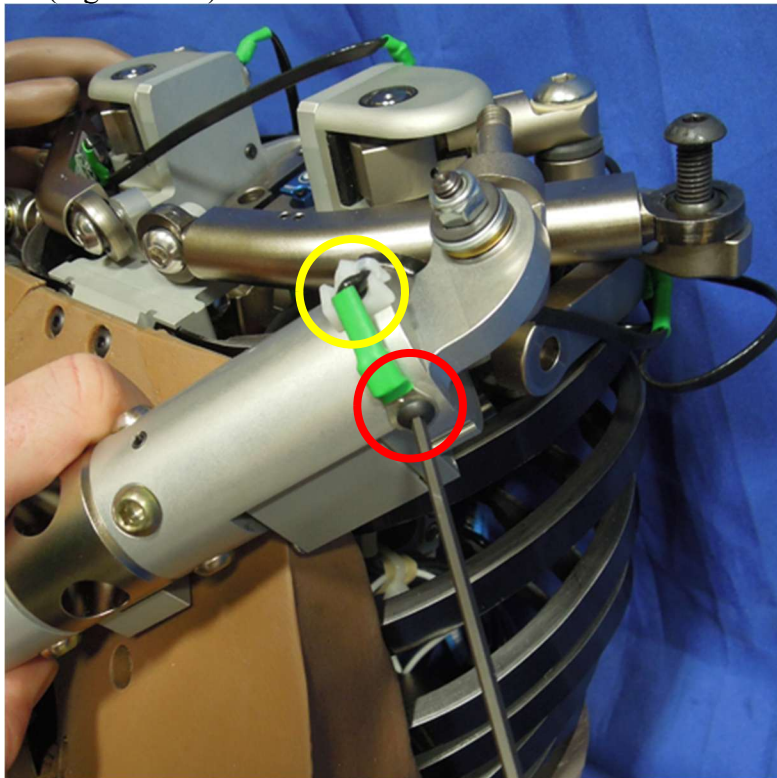

Figure 11-6. Remove the cable tie from the ground wire (yellow) and unscrew the ground wire (red) from the upper arm
11.2.3 Remove the cable tie from the ground wire (yellow circle in Figure 11-6 below) and unscrew the ground wire (red circle in Figure 11-6 below) from the upper arm (Figure 11-6).